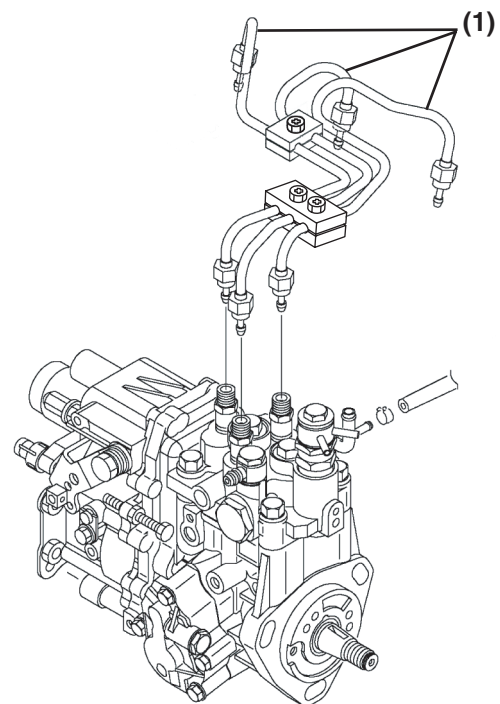

Figure 7-44
- Remove the high-pressure fuel injection lines as an assembly (**Figure 7-44, (1)**).